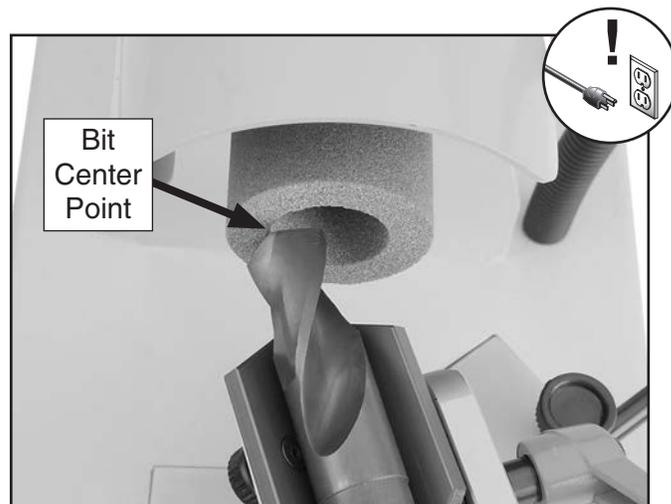

Figure 31. Bit center point touching the wheel inside edge.
16. Use the carriage handwheel and pivot lever to position the center point of the bit's chisel edge, so that it just touches the inside edge of the grinding wheel, as shown in **Figure 31**.